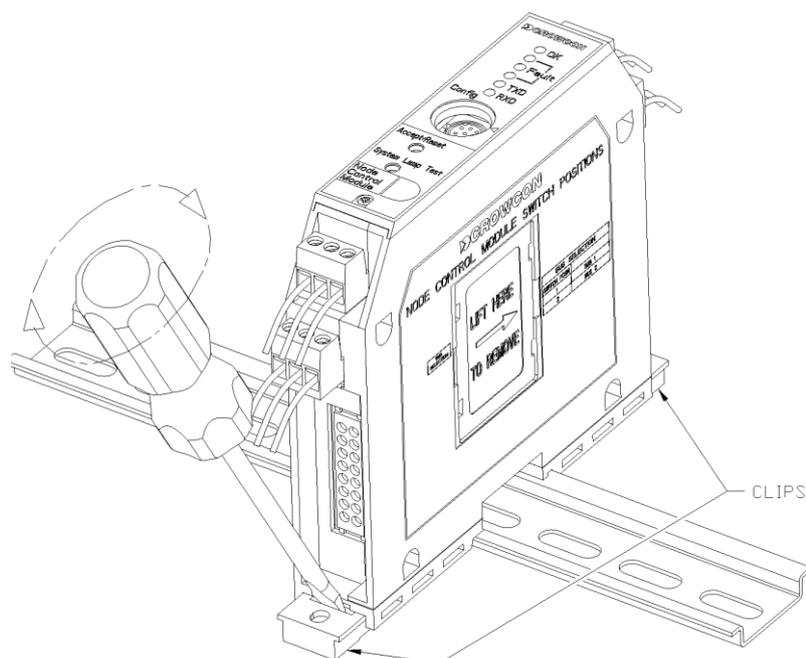

Figure 14: Module on DIN Rail, and method of removal
Modules plug into the sockets on the DIN Rail, and are held on by the plastic clips. See Figure 14.
2. To dismount a module, lift the top clip and lower the bottom clip using a screwdriver, as shown in Figure 14. Pull the module off the DIN Rail.